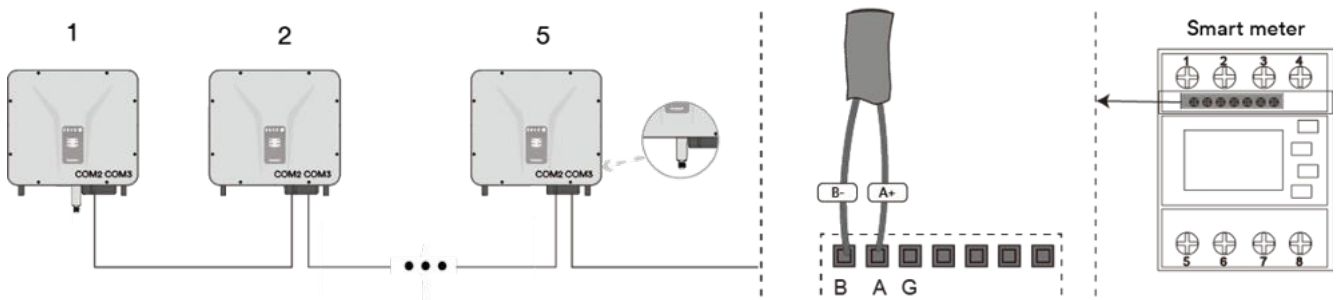
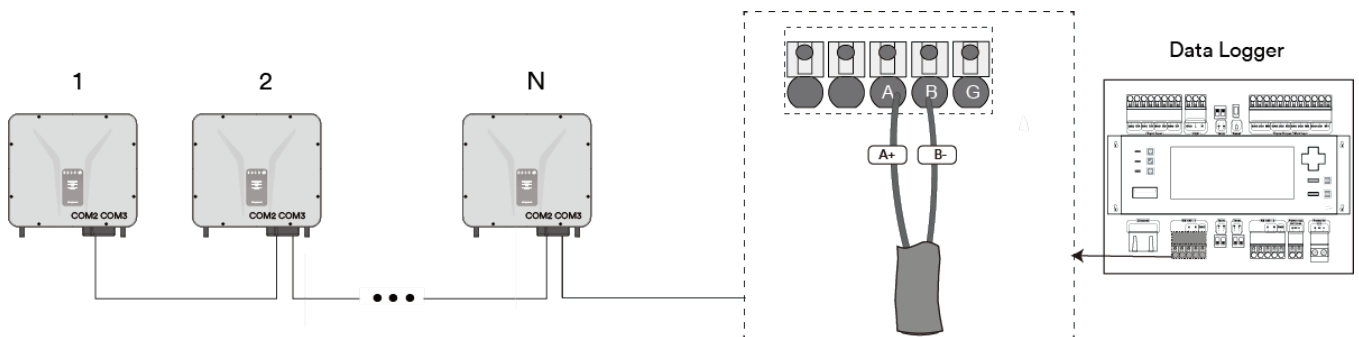

Fig. 42. RS485 Bus system connection with communication device
Fig. 43. RS485 Bus system connection with Data Logger
2. Strip the insulation of the other side from the network cable and screw copper wire to the corresponding terminal. [⚠PH0 ⚡0.7Nm] (See Fig. 42 & Fig. 43).